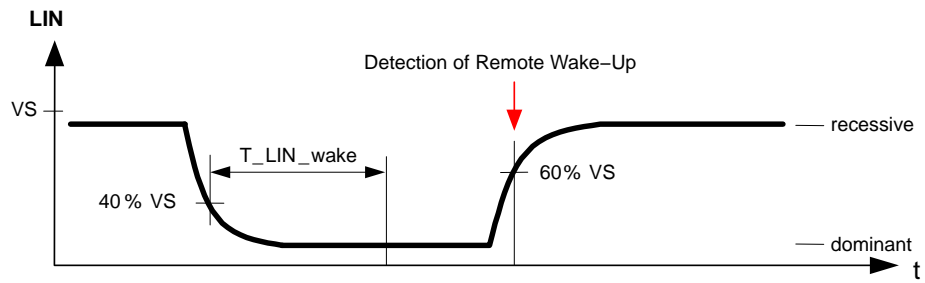

Figure 8. LIN Wakeup
- In the Standby and Sleep mode of the device, the LIN transceiver is in its wakeup detection state. Logical level on TxDL is ignored and pin RxDL is kept high until it's used as an interrupt request signal. A LIN bus wakeup corresponds to a dominant symbol at least T_{LIN_wake} long (typ. 90 μ s) followed by a rising edge (i.e. transition to recessive) – see Figure 8. In this way, false wakeups due to permanent LIN dominant failures are avoided. Only a pull-up current of typ. 15 μ A is connected between VS and LIN instead of the 30 k Ω pull-up path. The LIN wakeup detection is by default active in the Standby and Sleep modes and can be disabled via SPI control registers.